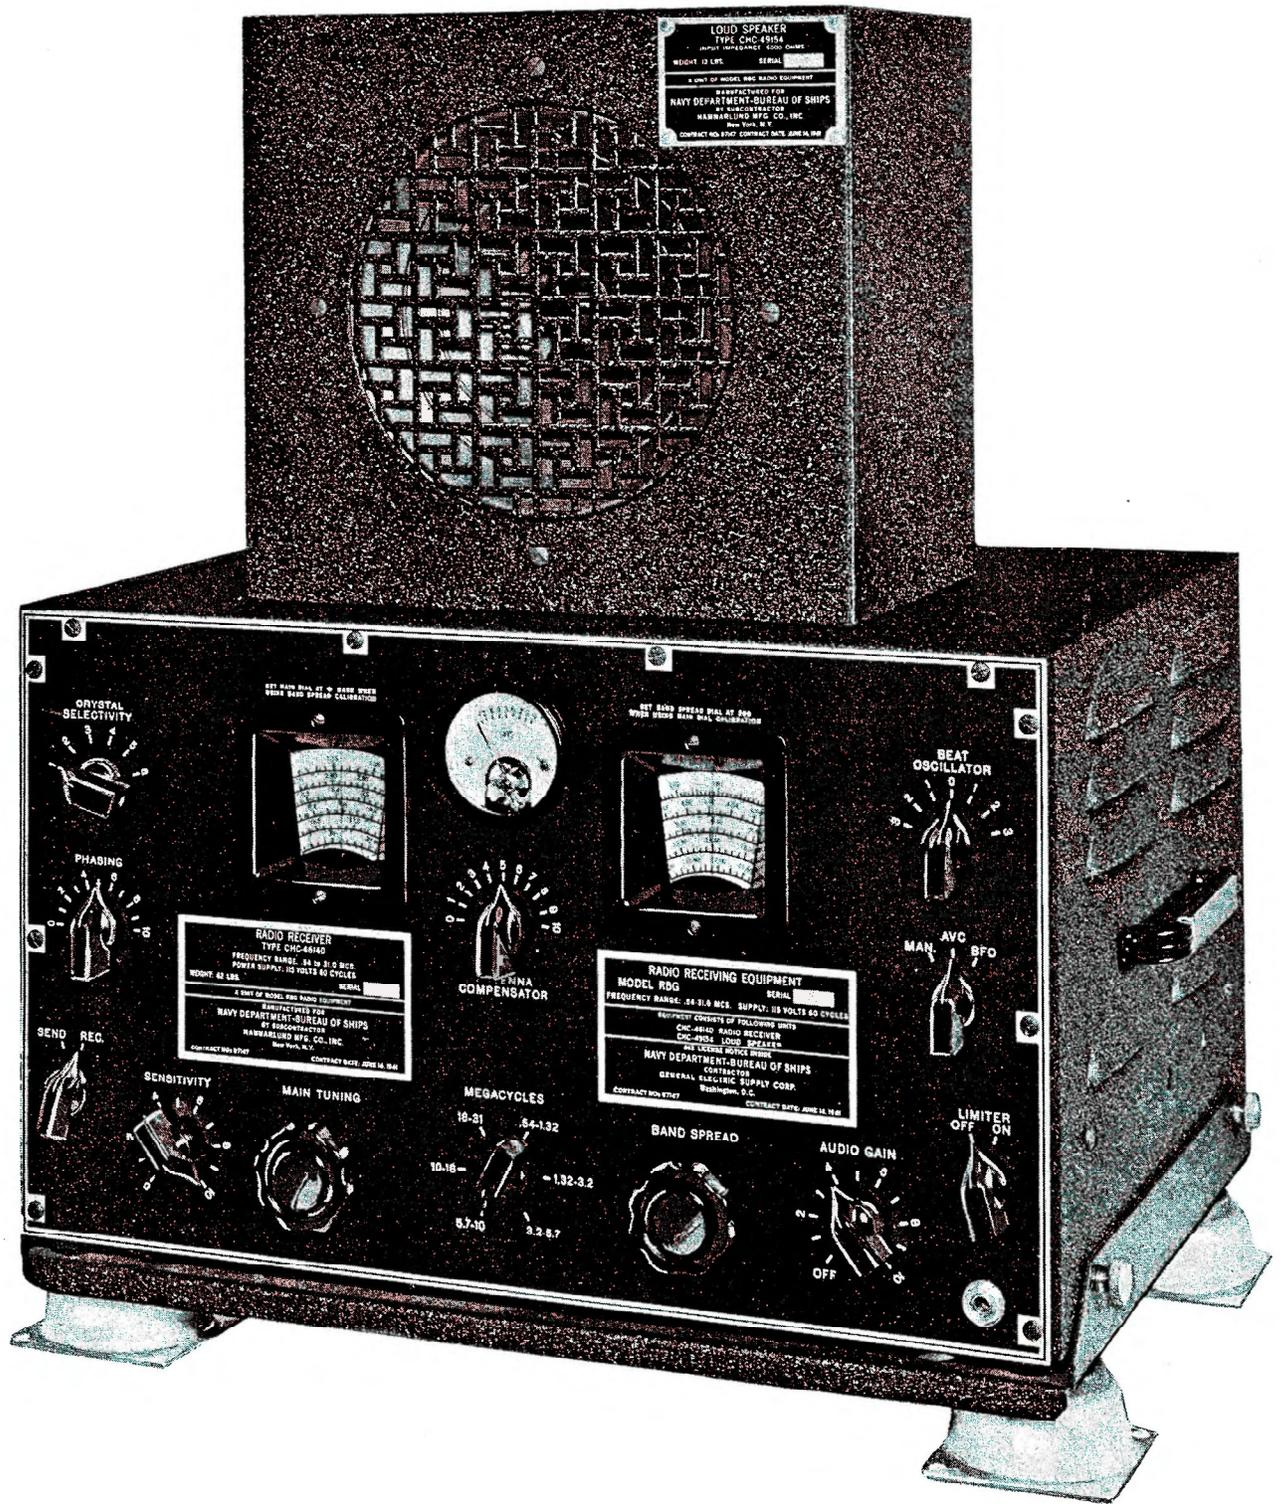

Fig. 1. Model RBG Equipment
7.201 The receiver is designed for table mounting, and includes a shock absorber equipped mounting frame with provision for securing permanently in the desired operating position. See Figs. 1 and 8.